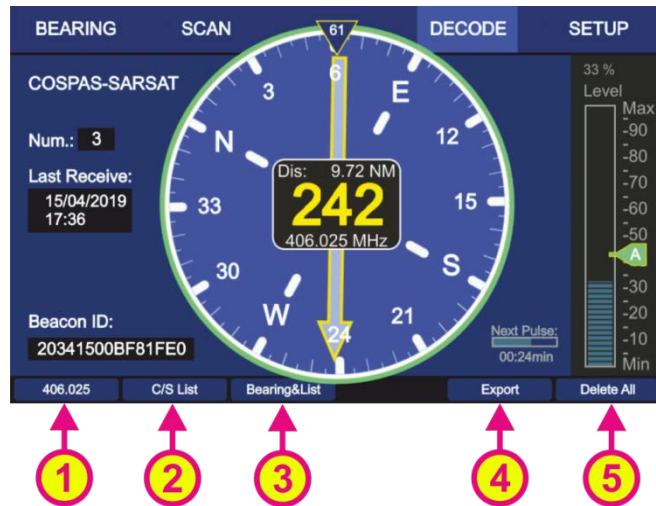

Fig. 61 Decode Page: Bearing View
Press the hotkey “C/S List” (s. Fig. 61, position 2) in order to get to the COSPAS-SARSAT list view.
- Change the active COSPAS-SARSAT frequency by using the hotkey “406.025” (s. Fig. 61, position 1).
- Pressing the hotkey “C/S List” (s. Fig. 61, position 2) will open to the “COSPAS-SARSAT List” view (s. 6.3.2).
- Pressing the hotkey “Bearing&List” (s. Fig. 61, position 3) will change to the “COSPAS-SARSAT Bearing and List” view (s. 6.3.4).
- Like in the “COSPAS-SARSAT List” view, it is possible to delete all stored COSPAS-SARSAT messages by pressing the hotkey “Delete All” (s. Fig. 61, position 5). This action must be confirmed.
- Hotkey “Export” exports the GPS coordinates of the currently displayed COSPAS-SARSAT message to the “Bearing” page. (s. Fig. 61, position 4). See also chapter 6.3.5 “Export to Bearing Page”.
The calculated bearing of an emergency beacon, which is based on the decoded GPS position, can be exported to the “Bearing” page by pressing the hotkey “Export” (s. Fig. 61 or Fig. 63, position 4). In this case, the RT-800 is operating on the selected COSPAS-SARSAT frequency in the normal bearing mode.